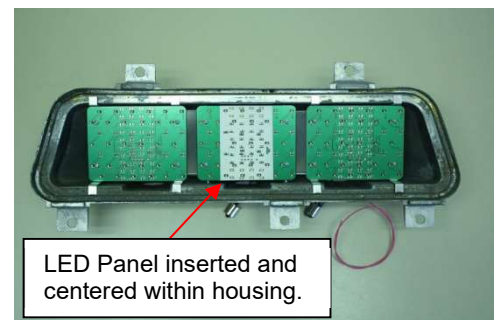

Figure 4
- 6.1. ORIENTATION OF PANELS – The Right Hand (RH) and Left Hand (LH) panels are marked on the LED panel backs with 'RH Top' and 'LH Top' respectively. The panels must be installed into the correct housing side in order for the sequential patterns to be correct. Center the panel within the housing and insert the panel into the housing. (See Figure 4)